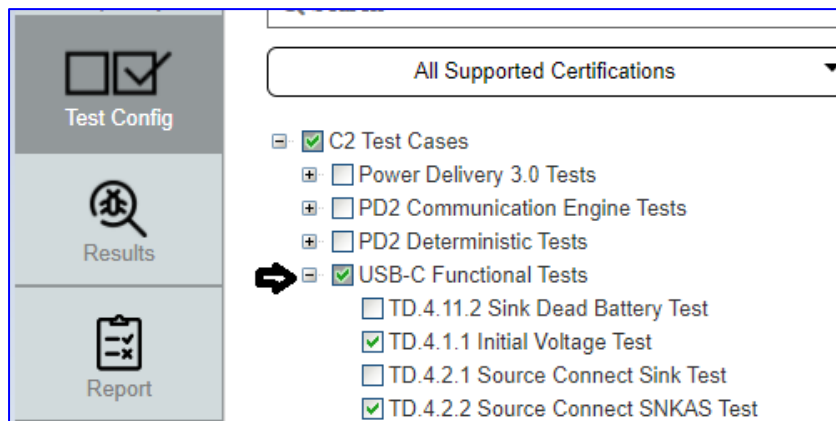
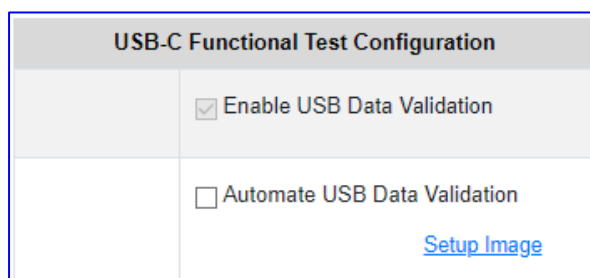

FIGURE 5.9: ACCESSING FUNCTIONAL COMPLIANCE TESTS WITH USB DATA SUPPORT
FIGURE 5.12: USB DATA VALIDATION ENABLED FOR HIGH-SPEED FUNCTIONAL TESTS
4. After loading the VIF file, go to the “Test Config” screen and select the “USB-C Functional Tests” checkbox (as shown in Figure 5.9 below) to access the functional compliance tests.
1. After selecting the “USB-C Functional Tests” test cases to be run (see Figure 5.9), in the USB-C Functional Test Configuration pane by default the “Enable USB Data Validation” checkbox should be enabled to run the USB Type-C High-Speed Functional tests (Figure 5.12 below). *Note: Do not enable the “Automate USB Data Validation” checkbox.*